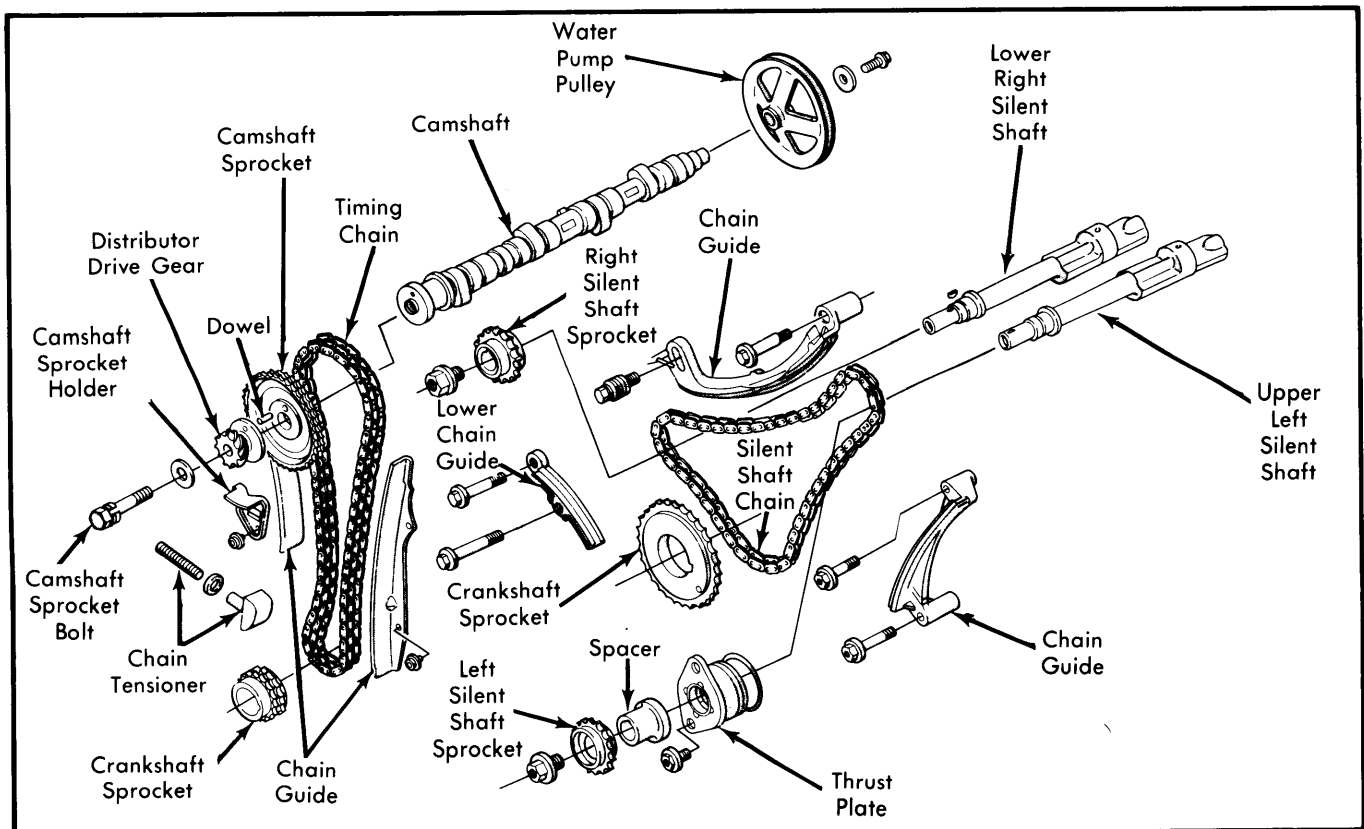

Fig. 7 Camshaft, Timing Chain, and Silent Shaft Assemblies
2) Loosen camshaft sprocket bolt slightly, and turn crankshaft until No. 1 piston is at TDC on compression stroke. Remove camshaft sprocket bolt and distributor drive gear. See Fig. 7.